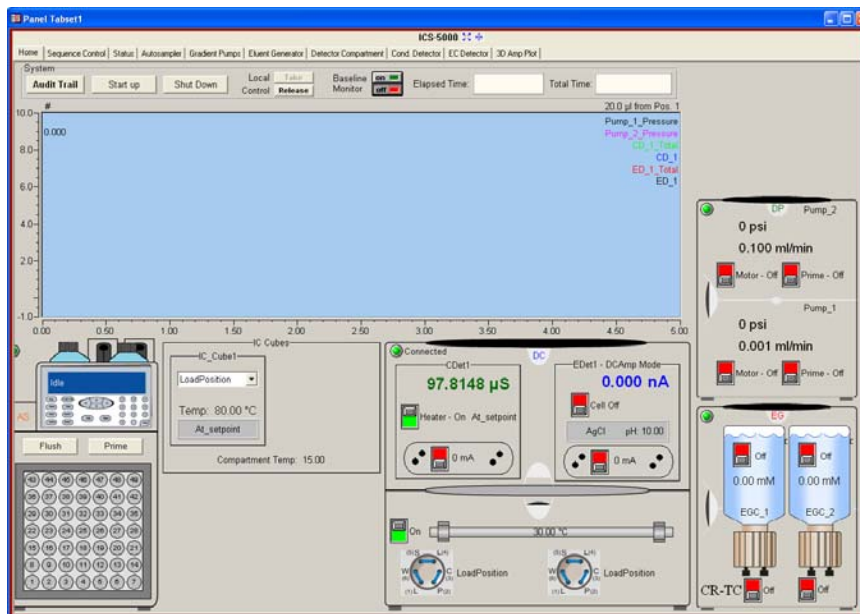

Figure 4-4. Example Chromeleon 6.8 Panel Tabset
2. To display the Chromeleon 6.8 panel tabset, click **View > Default Panel Tabset** or click the  toolbar button. The panel tabset opens to the **Home** panel by default (see Figure 4-4). This panel displays basic status information for each instrument in the system. In addition, a limited